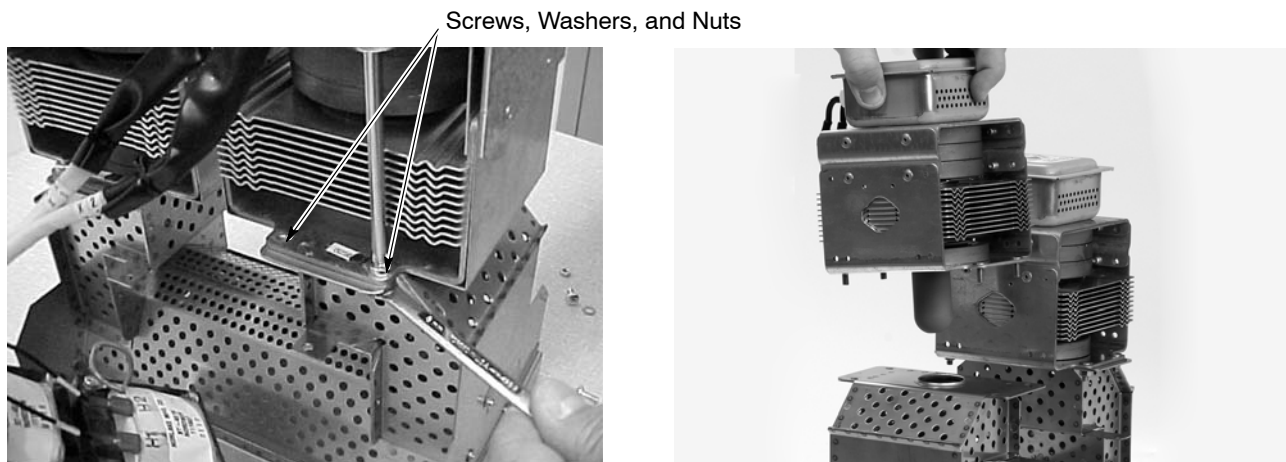

Figure 5-18 Magnetron Removal
- See Figure 5-18. Remove the four screws, washers and nuts that secure the magnetron to the lamphead base. Remove the magnetron. Check for signs of arcing or burning around the flange. If arcing or burn marks are present, replace the magnetron.
- See Figure 5-18. Inspect the gasket around the antenna of the new magnetron, making sure it is smooth and free of debris.